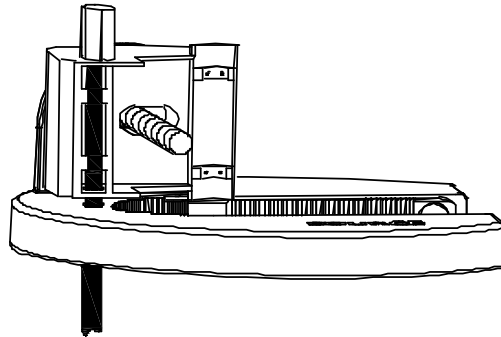

Figure 4.
3. Insert the end of the LV AGInode voltage cable into the bottom of the inner connector jaw (see Figure 4). Be sure to push the voltage cable through the inner jaw and into the wire cap on the top of the jaw. Continue to push until the wire tie on the voltage cable stops on the bottom of the connector jaw.